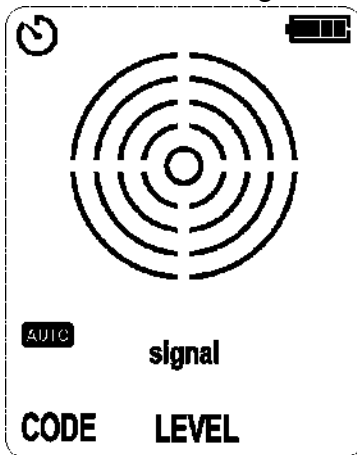

Figure 6.2.1a Auto Mode
2. The receiver is in power-on state by default, short press the AUTO/MANUAL button to switch to MANUAL scanning mode (reception level mode is 6), as shown in Figures 6.2.1a and 6.2.1b.